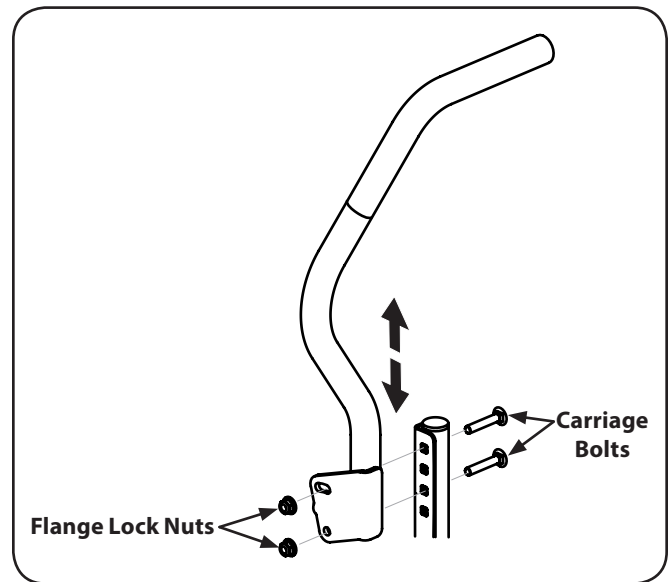

Figure 3-7
1. Remove the flange lock nuts that secure the carriage bolts in the drive control levers. See Figure 3-7.